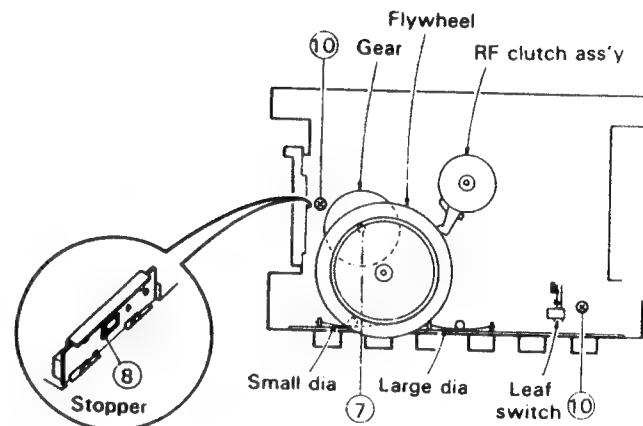

Fig. 3-20
• Gear (below the flywheel) (See Fig. 3-20 and 21)
- Remove the poly washer ⑦ securing the gear.
• Lock arm (See Fig. 3-20)
- Press the arm stopper from the window ⑧, and pull to remove.